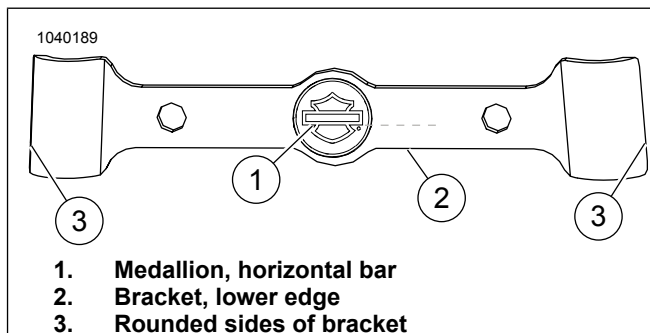

Figure 3. Medallion Alignment
- Figure 3 Side of bracket (3) are not symmetrical. Width at top is narrower than width at bottom.
- Figure 3 Align medallion horizontal bar (1) with lower edge (2) of bracket. These two must be parallel.
- Figure 3 Sides of bracket (3) are not symmetrical. Width at top is narrower than width at bottom.
3. Figure 3 Remove adhesive backing from left and right sides of bracket (3).